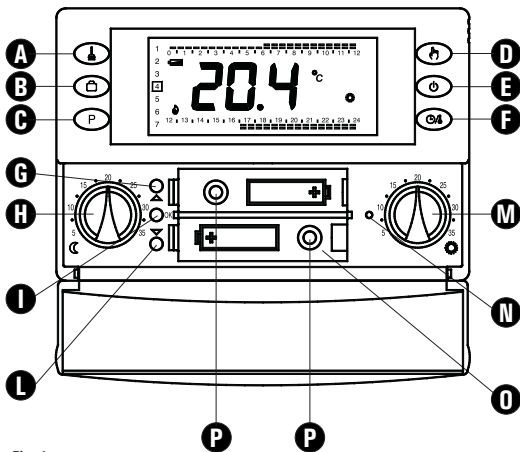

Fig. 1
6. Insert the batteries in the battery compartment (O in Fig. 1); see paragraph 'HOW TO INSERT/REPLACE THE BATTERIES'.
1. Open the flap of the battery compartment (Fig. 1).
4. Only if the programmable thermostat does not respond correctly carry out a reset operation by inserting a pointed object through the hole provided (N in Fig. 1); **DO NOT USE NEEDLES OR TOOLS THAT COULD IRREPARABLY DAMAGE THE CHRONOSTAT.**